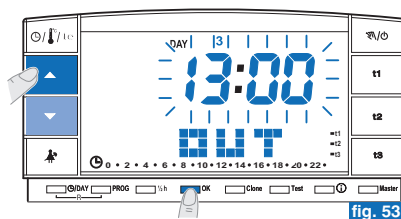

fig. 53
- Using the ▲▼ keys, set the hour in which you want to activate the Holiday program (leave home). Confirm with **OK** (fig. 53).